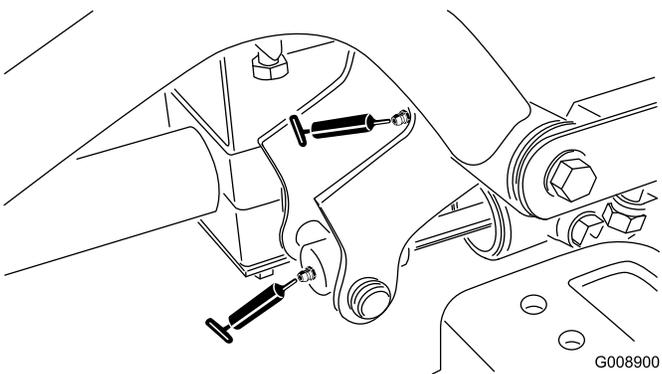

Figure 34
- 2 right, front lift-arm pivots and lift cylinder (Figure 34)